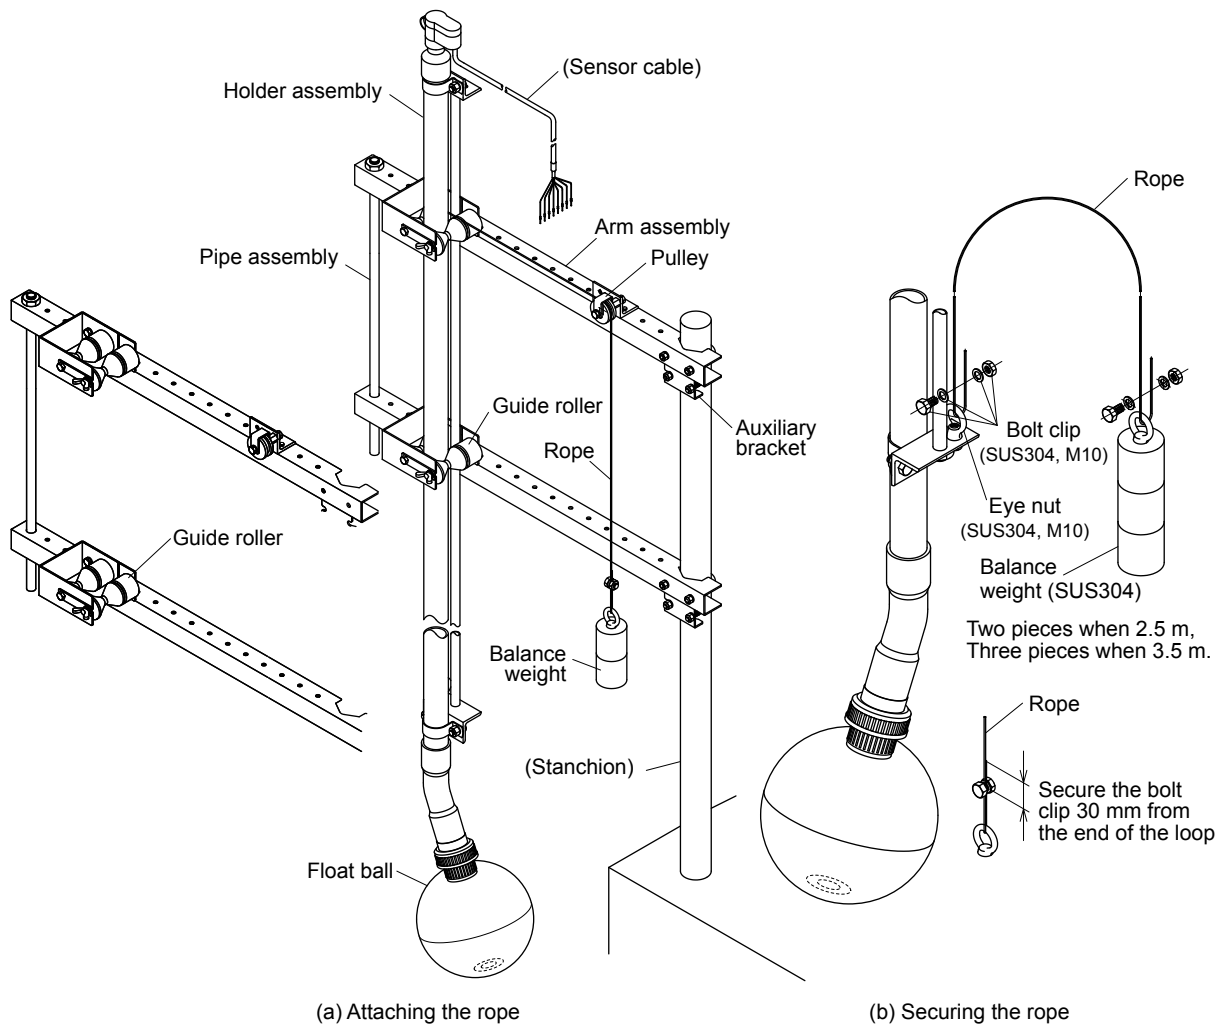

Figure 4.4 Attaching the Rope and the Balance Weight
- (2) As shown in Figure 4.4 (a) place the rope in the guide rollers and the pulley.
- (3) Secure one end of the rope to the holder assembly and the other end to the balance weight. First, thread the rope through the eye nut (see (b) in Figure 4.4) of the holder assembly. Use the supplied bolt clips to secure the rope. Properly tighten the bolt clips around 30 mm from the end of the loop in the rope (50 to 60 mm). Then thread the rope through the ring in the balance weight. Secure the rope in the same way as it was secured to the holder assembly.